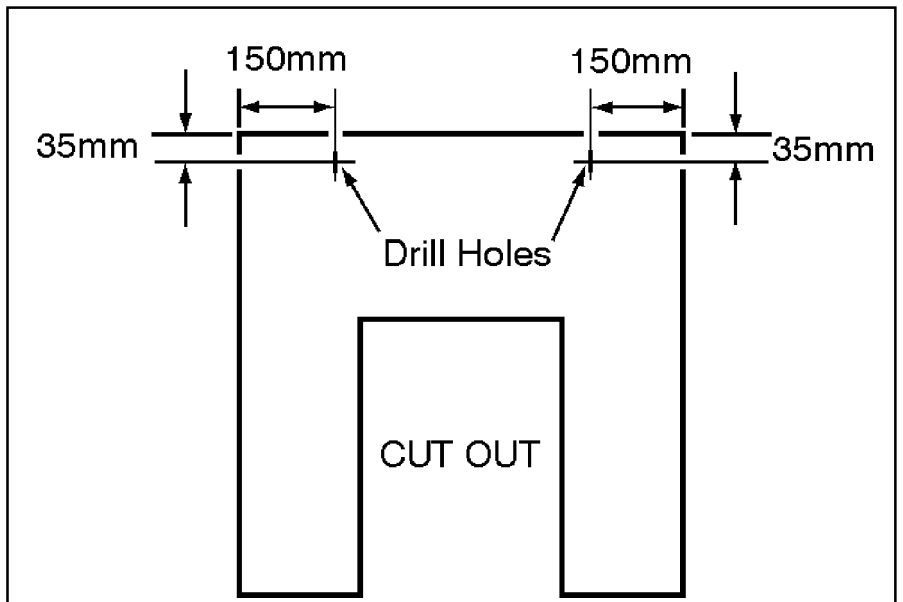

Figure 4. Drilling the Back Panel
- Drill two 4mm holes into the back panel as in figure 4.
- Screw the Back Panel to the rear of the fascia using two screws (L).
- Locate the brackets (F) 100mm above the bottom edge of the legs. Secure these in place using two screws (I).